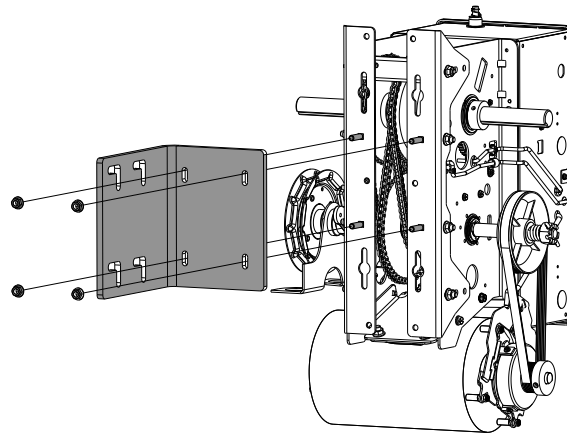

Figure 15
- Attach operator to main mounting bracket using the four 5/16" - 18 X 1-1/4" carriage bolts, flange nuts. See Figure 15